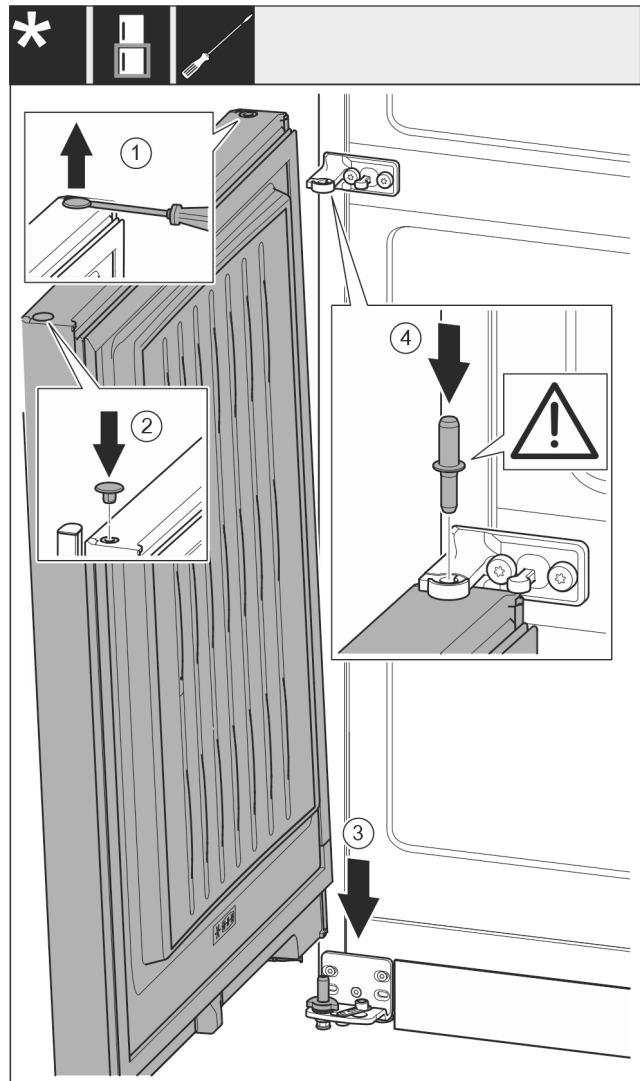

Fig. 19
- Carefully lift up the plugs with a slotted screwdriver and pull them out. Fig. 19 (1)
- Insert the plugs again on the other side of the door. Fig. 19 (2)
- Place the door onto the lower bearing pins from above. Fig. 19 (3)
- Insert the centre bearing pin through the centre bearing bracket into the lower door. Make sure that the latching lug is pointing to the rear. Fig. 19 (4)